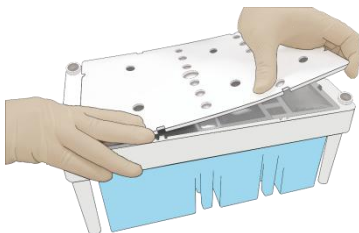
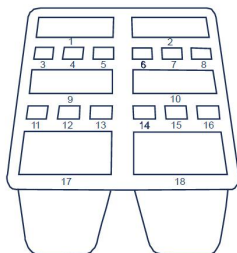

Figure 7-1: Open and clean the kit
Figure 7-2: Well position
- ① If dark green crystals appear in well No.10, it is precipitation of raw materials of the reagent in well No.10. This is a normal phenomenon. When the cartridge is thawed, mix the reagents in the cartridge well and the crystals will dissolve. Sequencing quality will not be affected. See "10.8 Dark green crystals in well No.10" in this manual for details.
- ② After being removed from -25--15°C, the flow cell must be placed at room temperature for at least 60 min (and not more than 24 hours) before DNB loading.
- Open the cartridge cover and wipe any water condensation with lint-free paper (see Figure 7-1). Well position is shown in Figure 7-2.
- Pierce the seal at the edge of well No.1 and No.2 (see Figure 7-2) to make a hole around 2 cm in diameter using 1 mL sterile tip (see Figure 7-3):
- Pierce the seal at the edge of well No.1 and No.2 (see Figure 7-2) to make a hole around 2 cm in diameter using 1 mL sterile tip (see Figure 7-8):
- Pierce the seal at the edge of well No.1 and No.2 (see Figure 7-2) to make a hole around 2 cm in diameter using 1 mL sterile tip (see Figure 7-12):